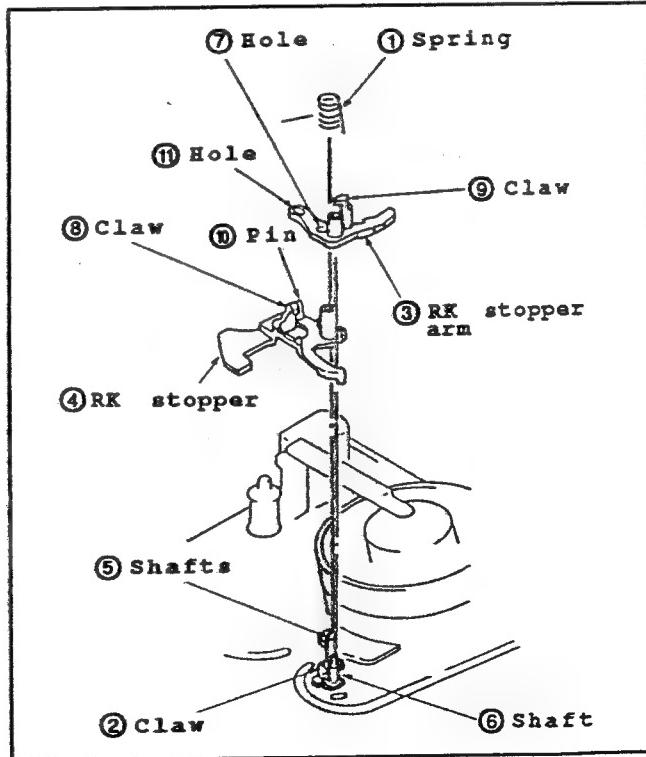

Fig.II-13
• Disassembling (Fig.II-13)
- (1) Remove the screw ①.
- (2) To take off the RK stopper arm ③, unhook the claw ② of chassis.
- (3) Take off the RK stopper ④.
• Reassembling (Fig.II-13)
- (1) Assemble the RK stopper ④ onto the shaft ⑤.
- (2) Assemble RK stopper arm ③ onto the shaft ⑥ while inserting the pin ⑩ to the hole ⑪.